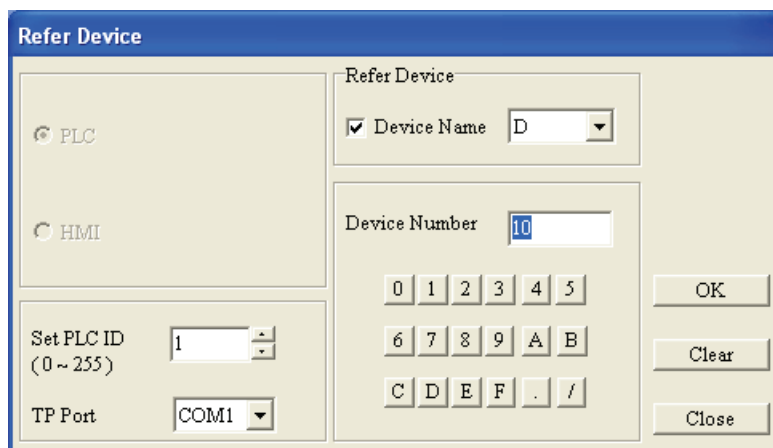

Figure 1-122
Step 3. After entering the device name and clicking , the Refer Device tab will open (Figure1-122). In the Refer Device tab, the users can enter device name, set device number and communication address. The device name could be X, Y, M, S, D, C, and T and the device number is indicated in decimal format. When entering into the Refer Device tab, the users should select the desired device type (Bit or Value) first. If the Refer Device is set to Bit, the available device could be X, Y, M, S, C, T. If the Refer Device is set to Value, the available device could be T, C, D. The users could click  to select the necessary Device Name. If the connected controller is AC motor drive (Inverter), it does not need to check the Device Name. The symbol \$ will show after the Device Name to represent the absolute address of AC motor drive. What the users need to do is to input absolute address in the field of Device Number. For example, if the register is D10, the communication address is used to determine which